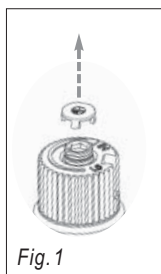

Fig. 1
- 8) Remove the black protection cap by hand from the high-low knob (Fig.1).